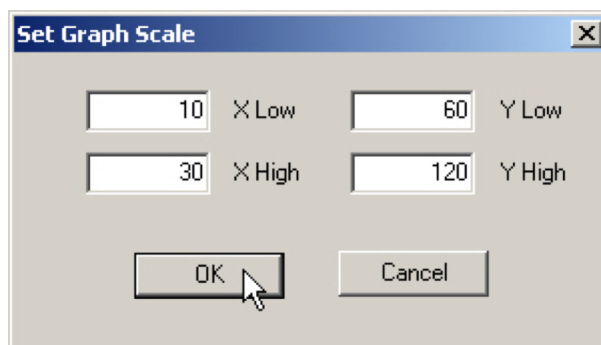

Figure 209 - Saving Scale Adjustments
2. Adjust the X axis and Y axis coordinates as necessary and click **OK** (*Figure 209*).